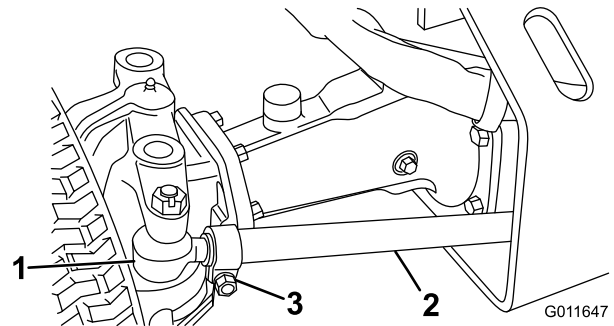

Figure 52
2. Remove cotter pin and nut securing one tie rod ball joint to mounting bracket on axle and disconnect ball joint from axle (Figure 52).
3. Loosen screw on tie rod clamp (Figure 52). Rotate ball joint in or out to adjust length of tie rod.